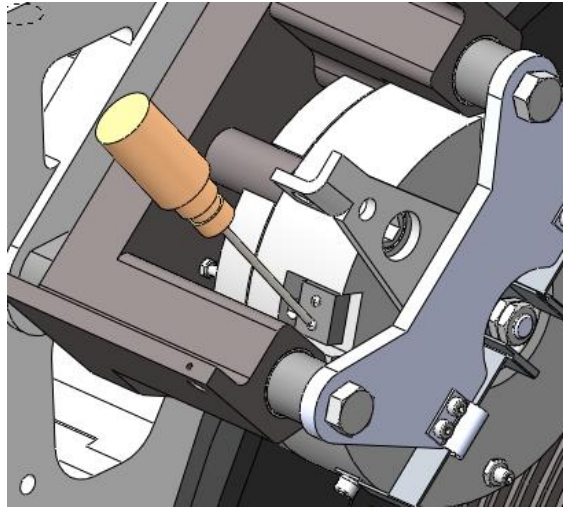

Figure 43: Install brake switch
3. Install the brake switch on the brake body by tightening the screws M2x10 using the Phillips head screw driver. Use torque screw driver to tighten the bolt to 1.8 in-lb, then apply Loctite 480 or equivalent between the screw heads and the switch body. See Figure 43.